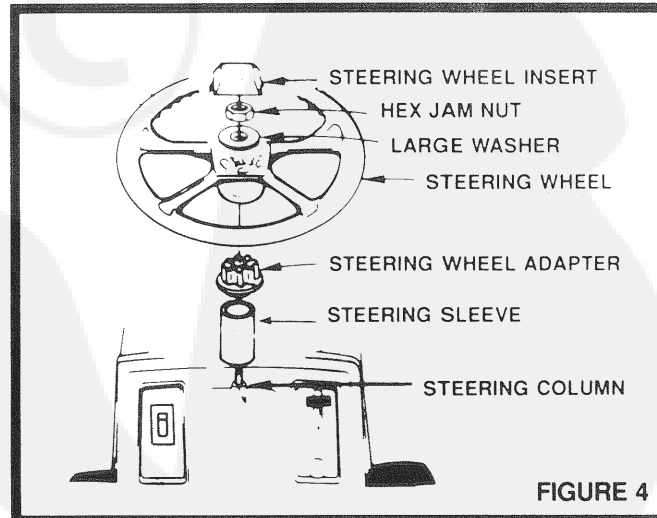

FIGURE 4
- a. Remove Hex Nut and Washer from Steering Column (Fig. 4). NOTE: POSITION FRONT WHEELS FORWARD.